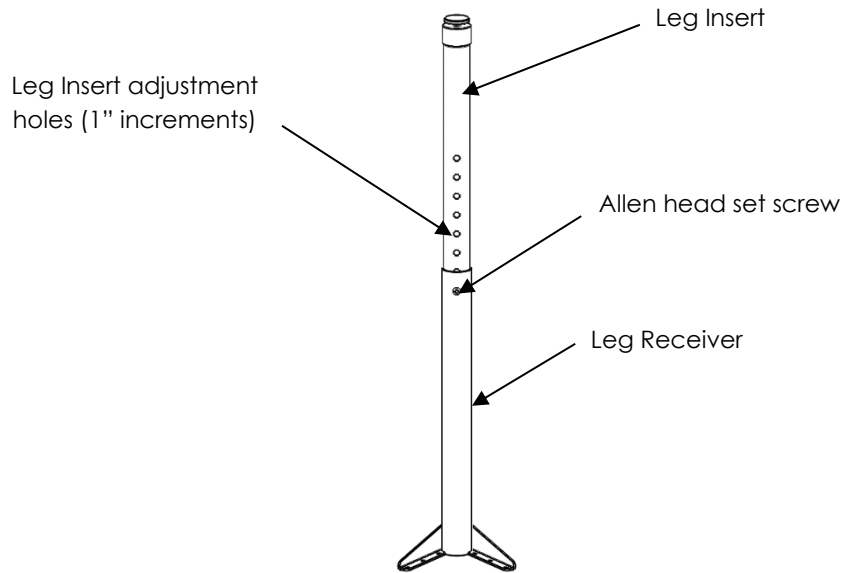

Figure 3
- Adjust leg to desired height by loosening the Allen head set screw, sliding the leg insert in or out of the receiver until the desired height setting is reached. Retighten the Allen head set screw ensuring that the corresponding hole in the Leg Insert aligns with the Allen head set screw. See Figure 3 below.